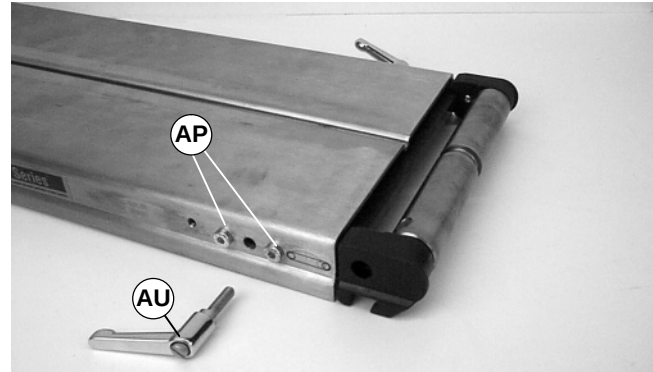

Figure 36
1. Remove handle (AU of Figure 36).